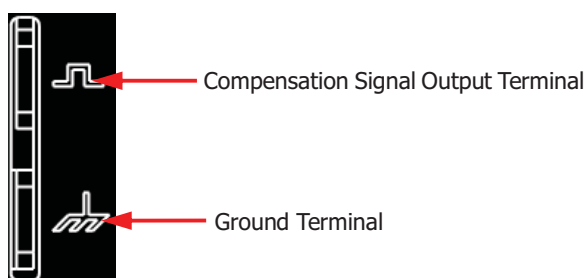

Figure 1-7 To Use the Compensation Signal
2. Connect the ground alligator clip of the probe to the "Ground Terminal" as shown in Figure 1-7 below.
3. Use the probe to connect the input terminal of CH1 of the oscilloscope and the "Compensation Signal Output Terminal" of the probe, as shown in Figure 1-7.